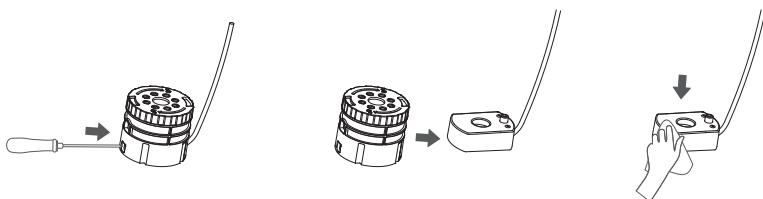

Fig 6
5. Use a screwdriver to poke the small hole in the back of atomizing head assembly, and take out the atomizing head for cleaning as shown in **Fig 6**, and wipe the center of it with a damp soft cloth.